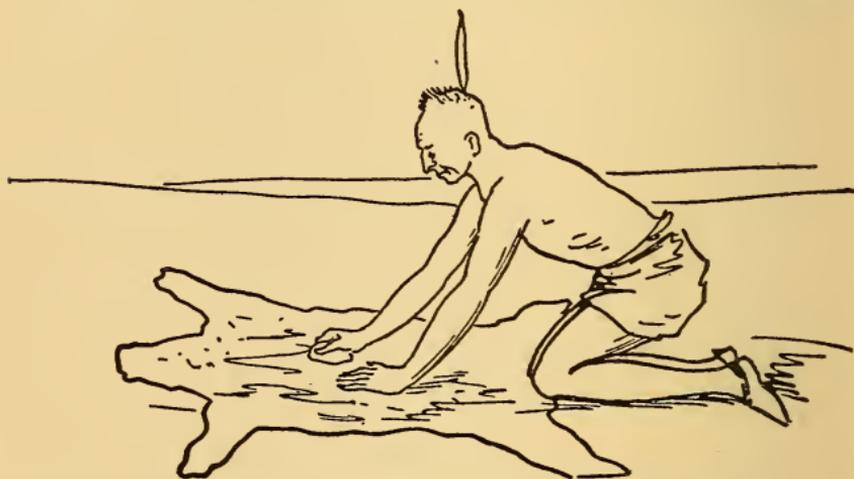

FIG. 49. HOW TAWING IS DONE
**How Tawing Is Done.** —*Oil Tawing.*—After the skins are made ready in this fashion, a little phenol ( $\text{C}_6\text{H}_5\text{OH}$ ), that is, carbolic acid, is put into some fish oil and this solution is rubbed well and often into them. See Fig. 49.